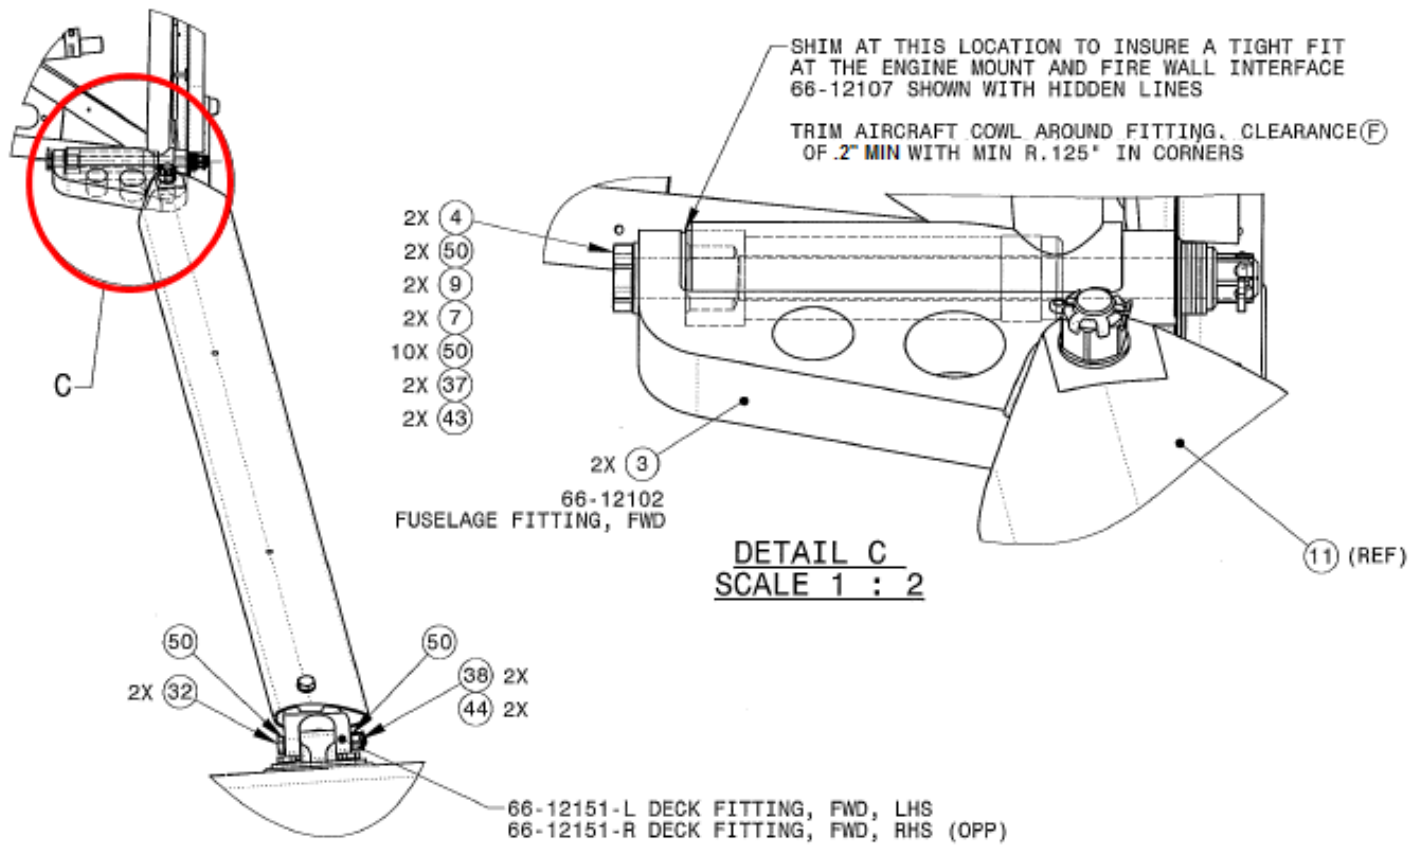

Figure 1: Shim Location 66-12020
1. There should be a minimum .2" opening around the fitting including the fuselage flange ahead of the firewall. See Figure 1 below.